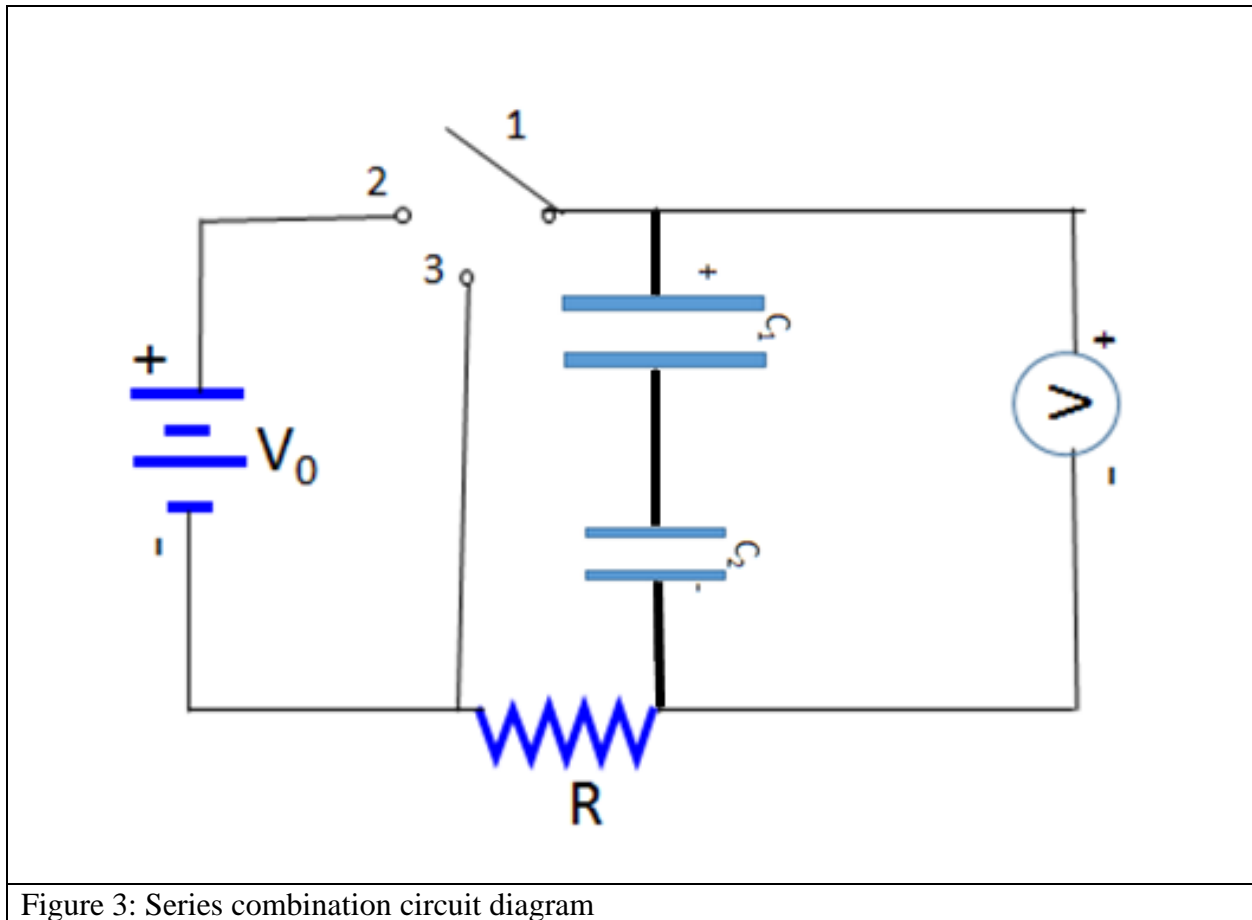

Figure 3: Series combination circuit diagram
1. Connect two capacitors in series as shown in **Figure 3**.
4. Find expected value from the theory equation (6).